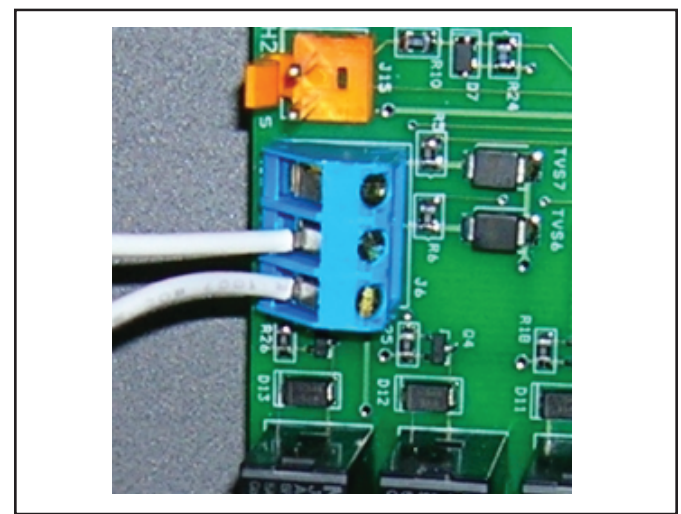

Figure 12b. AquaLink RS or Remote TSTAT Connection (2-Wire Connection)
4. Connect the wiring from the pool/spa control system to the heat pump remote control terminal (See Figure 12b).